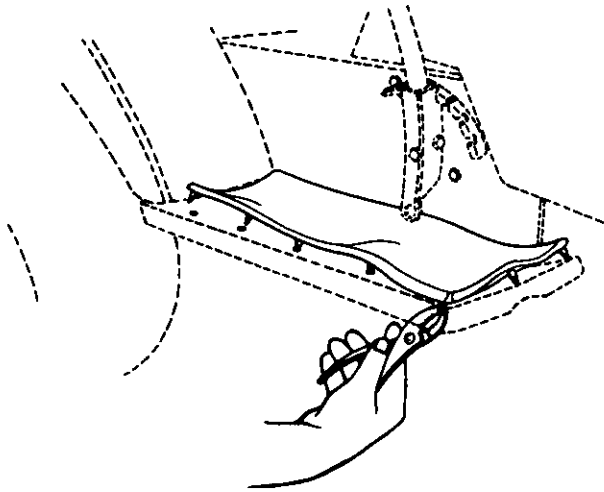

FIGURE 10.
1. If not already assembled, attach the foot pads as follows. Position one foot pad on top of the running board on the tractor, lining up the studs on the bottom of pad with the holes in the running board. Pull the studs through the holes in the running board using a pair of pliers. Repeat on other side of tractor. See figure 10.